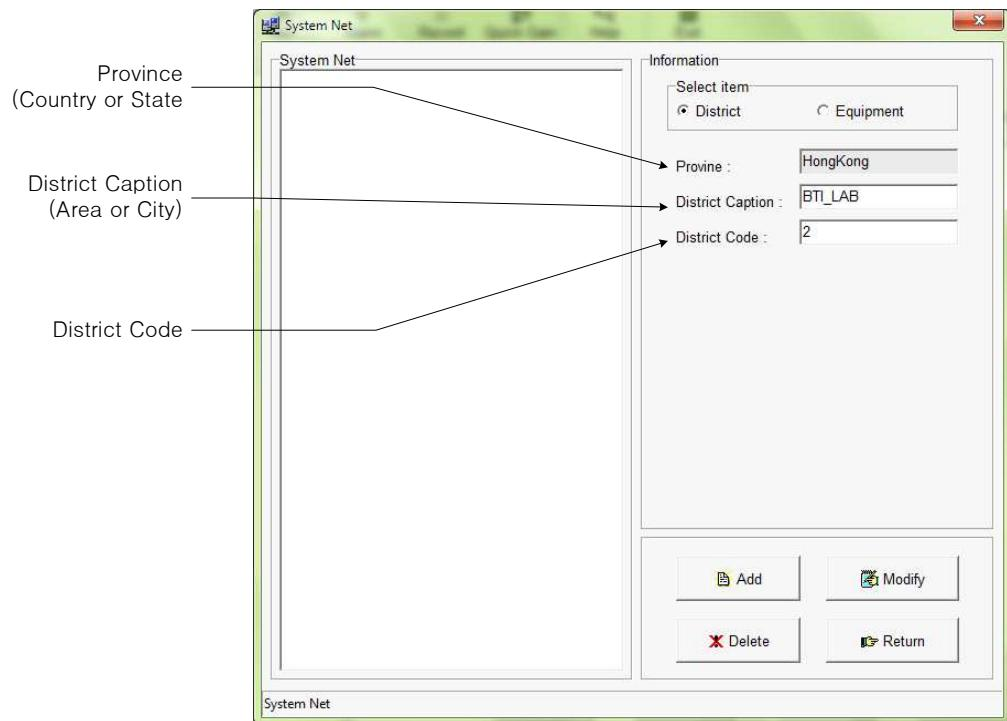
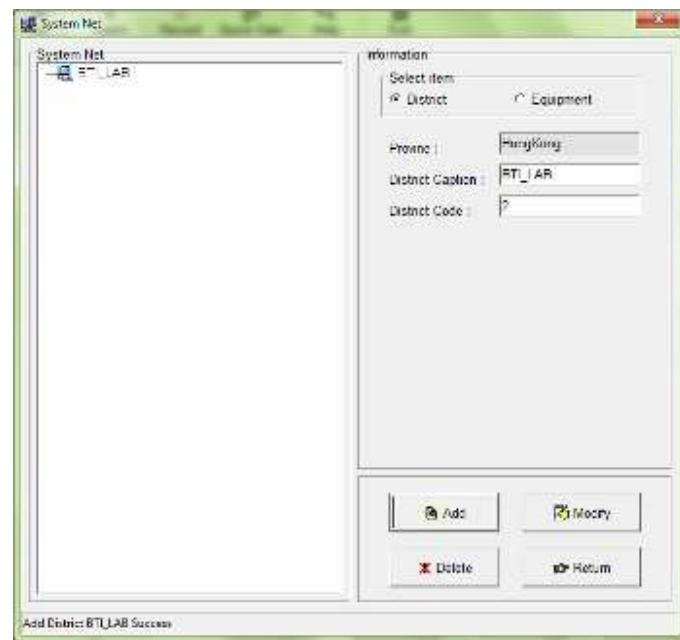

Figure 3-6. Define the District
Figure 3-7. Result window after Defining District
5. Define the District for highest level of system configuration as shown in Figure 3-6. User can define each section without rules. After typing the information, click the **Add** button right-bottom of the window. Figure 3-7 shows the result after defining the district